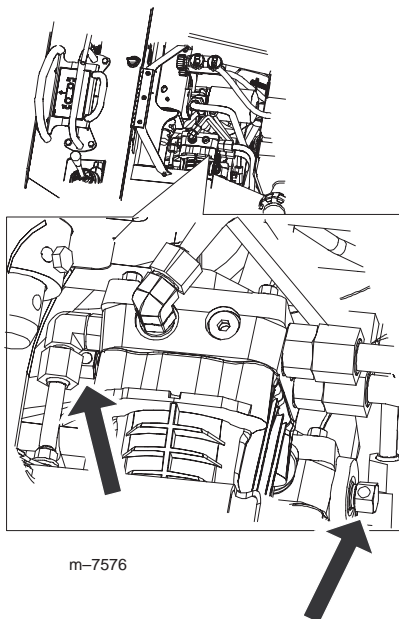

Figure 20
- Using a wrench, turn the tow valves (Fig. 20) on the hydraulic pumps twice counter-clockwise.